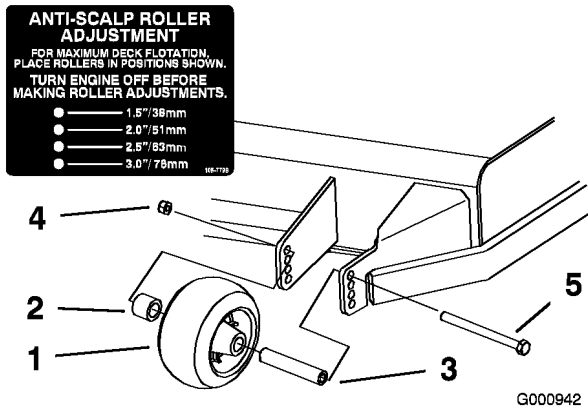
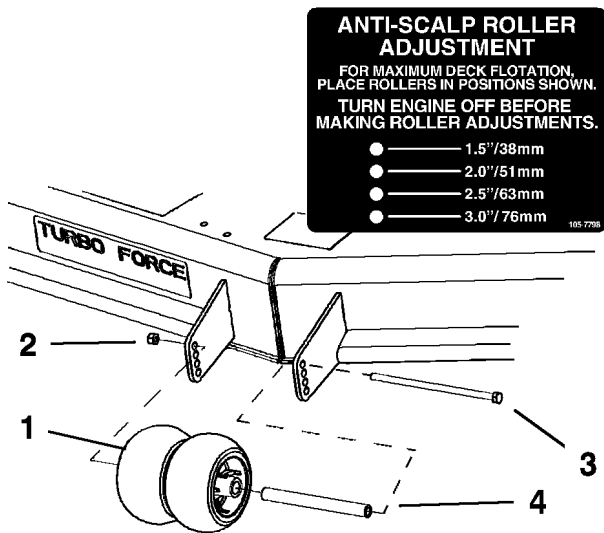

Figure 20
Figure 21
3. After adjusting the height-of-cut, adjust the rollers by removing the flange nut, bushing, spacer, and bolt (Figure 20 , Figure 21 and Figure 49).
Note: The two middle rollers will not have a spacer (Figure 21).
5. Install the flange nut bushing, spacer, and bolt. Torque to 40-45 ft-lb (54-61 N•m) (Figure 20 , Figure 21 and Figure 49).